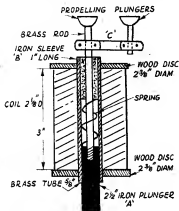

Fig. 2. Details of solenoid magnet
Details for making a suitable solenoid magnet may be seen in Fig. 2, although it is often possible to purchase one quite reasonably from dealers in second-hand electrical accessories. The coil should be wound with about 15 layers of No. 16 single copper-covered or enamelled wire. A brass rod is threaded to the end of a 2½-in. soft-iron plunger (A) as shown. The upper end of the brass rod passes through a hole drilled in the centre of the 1-in. iron sleeve (B). A light brass or bronze spring keeps the plunger pushed outward ordinarily. When the push-button (the bell-push) is depressed, current flows through the coil, and the iron plunger (A) is drawn into the direction of the soft-iron core (B), which is fitted tightly into the brass tube.